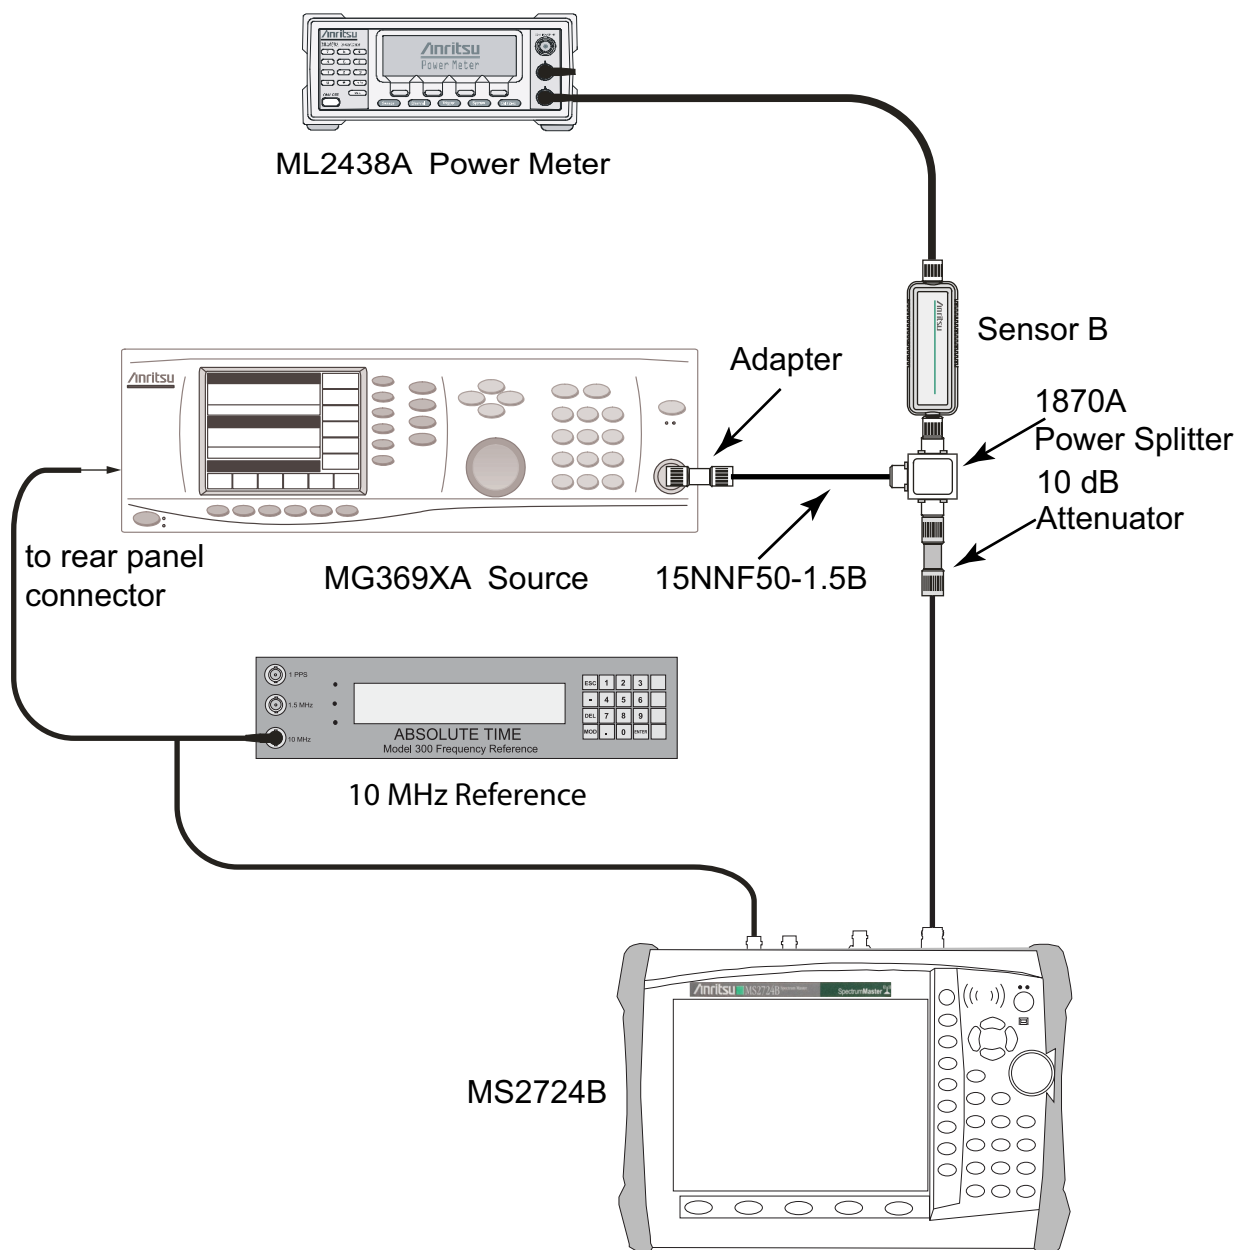

Figure 2-10. 50 MHz Amplitude Accuracy Verification – Test Setup
- Connect the equipment as shown in Figure 2-10, “50 MHz Amplitude Accuracy Verification – Test Setup” on page 2-23, disconnecting Sensor A from the Attenuator, and connecting the RF In port of the MS2723B or MS2724B to the splitter output via the Attenuator.